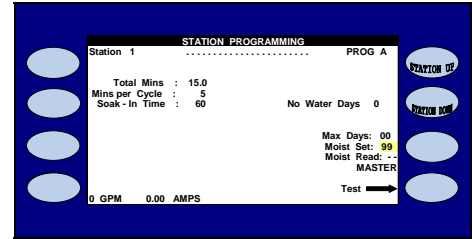

Figure 5.38
- **MOIST SET:** The Calsense Moisture Sensor has it's own numerical system of moisture readings. Typically it reads between the range of 45 (dry) to 85 (wet). By keeping moisture set points at 99, the sensors are never allowed to read above the set point value, and the controller waters the full programmed time. This occurs for the Master station as well as all slave stations assigned to the Master Station. After a few weeks, the slave areas should be checked and readjusted if necessary. If the slave area is too dry, adjust it's maximum time to 10% more. If the area is too wet, decrease it by the same percentage. In both cases, the area should be rechecked after another few weeks, with readjustments made until the proper soil moisture level is achieved (Figure 5.38).